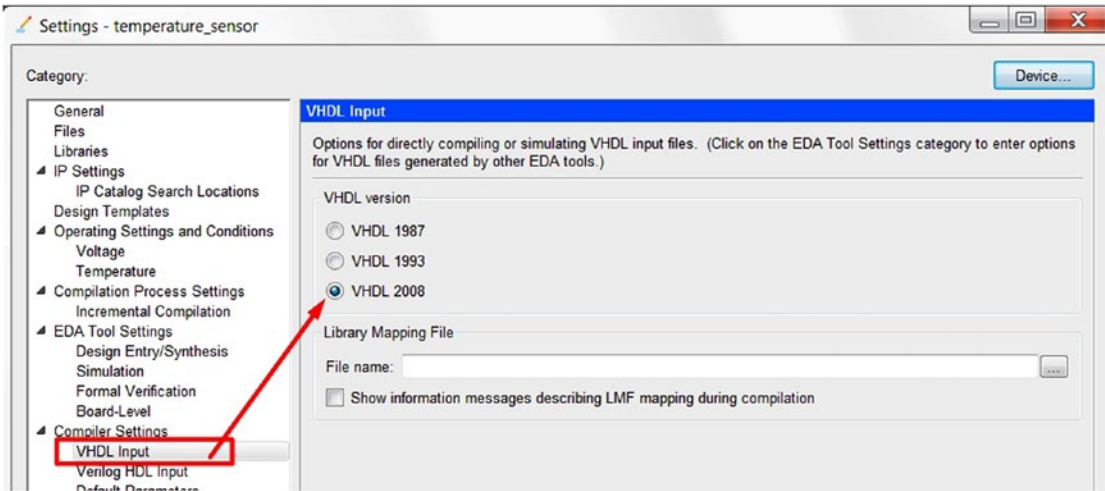

Figure 13-29. Setting for VHDL 2008
- In the Compiler Setting ► VHDL Input, select VHDL 2008. Figure 13-29 shows the setting.